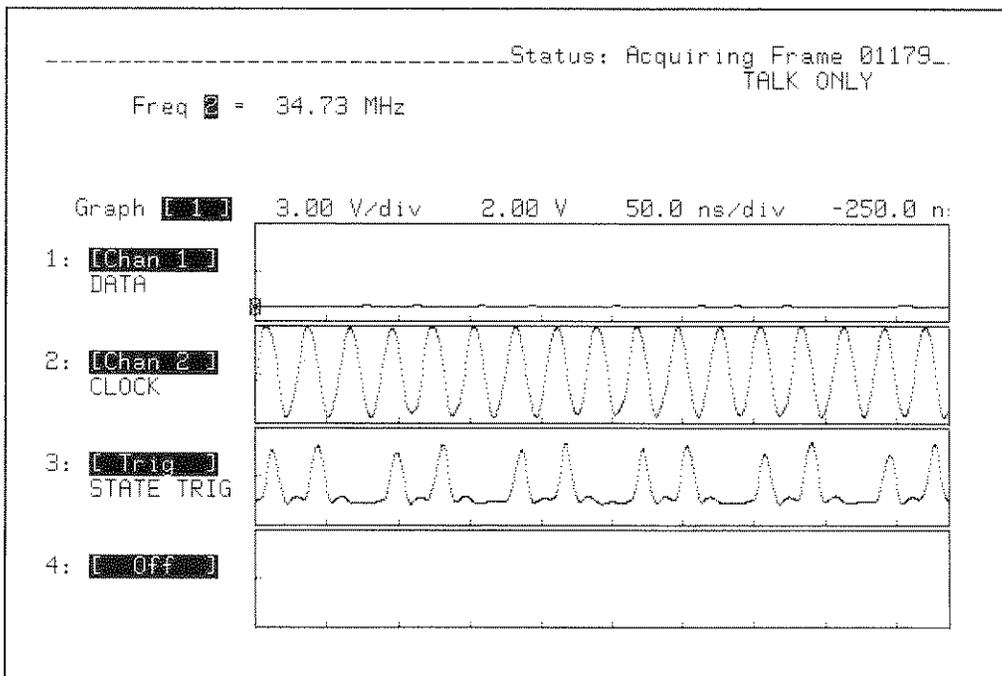

Figure 9-27. Clock Repetition Rate Test Waveforms
11. While observing the pulses displayed on the channel labeled "STATE TRIG", decrement the pulse generator period in 1 ns steps until the "STATE TRIG" waveform begins to drop pulses as shown in figure 9-27.